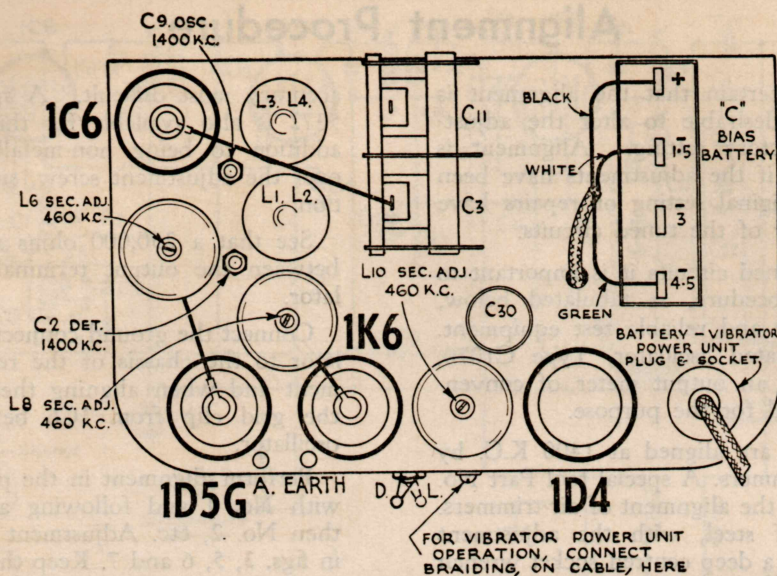

Fig. 6.—Radiola 164 (top view).
- Connect the vibrator power unit socket to the plug on the chassis, see fig. 6, and refer to fig. 8 for instructions in connecting the accumulator.
- (c) Connect the battery cable socket to the plug on the chassis, see fig. 6, and refer to the instruction book for instructions in installing and connecting the "A" and "B" batteries.